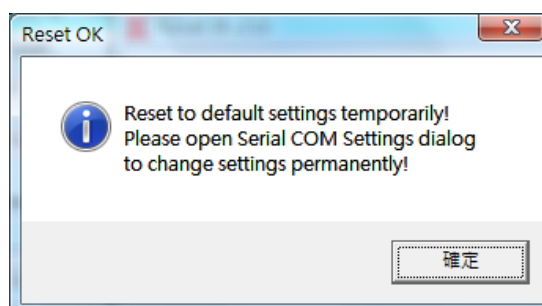

Fig. 3-7 Reset to default settings temporarily
- (1) Connect PC to the RS-232 port of IR-210 and click “Open” button in the utility to open COM port.
- (2) Power off and power on IR-210. Click Reset button within 3 seconds after power on.
- (3) A dialog as Fig. 3-7 shows that the resetting to default values is done. Please note that the parameters resetting is temporary. Please go to “IR-210 Basic Settings” interface and click “Set Permanently” button to confirm the settings.